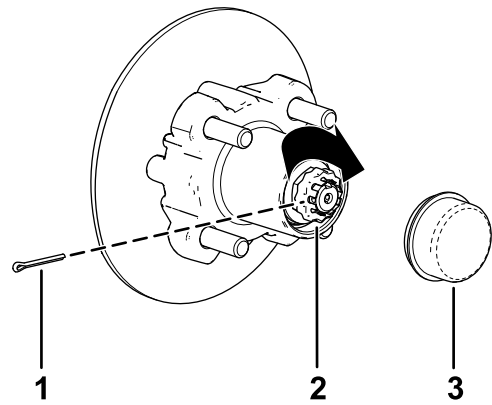

Figure 35
8. Install the retainer over the nut and check the alignment of the slot in the retainer and the hole in the spindle for the cotter pin (Figure 35).
9. Install the cotter pin and bend each leg around the retainer (Figure 35).
10. Install the dust cap onto the hub (Figure 35).